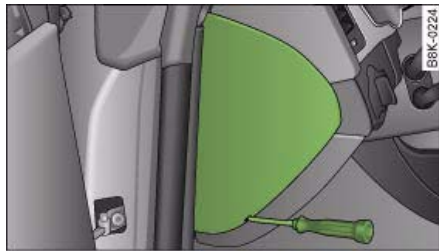

Fig. 241 Left side of dash panel: Fuse cover
- Remove the fuse box cover ⇒ fig. 241.